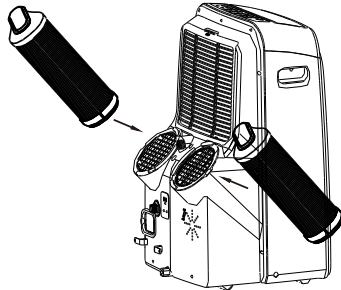
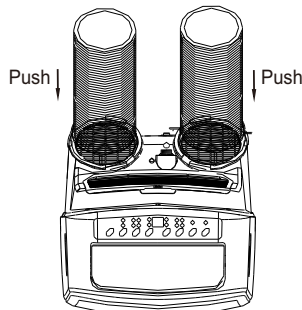

Fig.17a
Fig.18
2. Install the flexible Exhaust hose as depicted in Fig.17a&b. Then push the hook of the Exhaust hose into the hole seat of the unit in Fig.18.